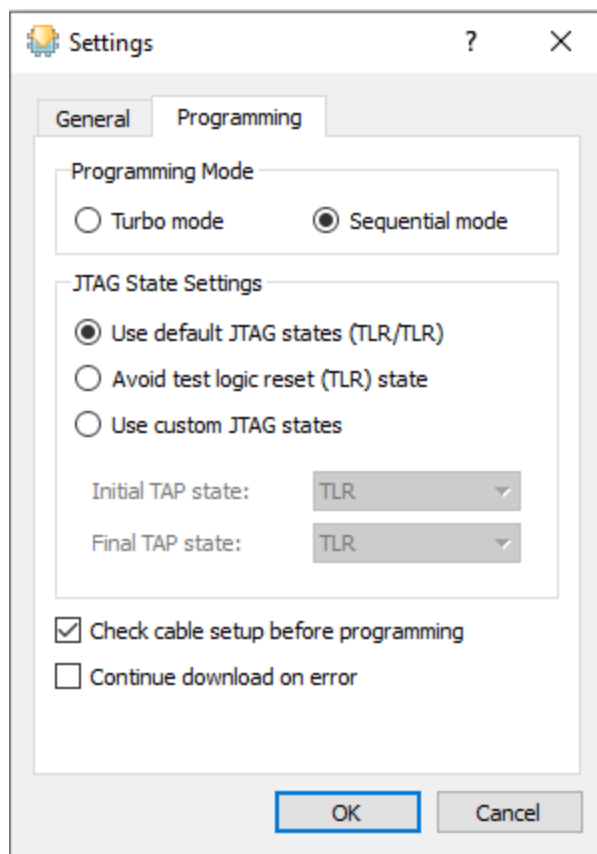

Figure 6.7. Programming Settings Restored to Default Settings
- a. In the Diamond Programmer main interface, click **Edit > Settings** to open the **Settings** dialog box, as shown in Figure 6.7.